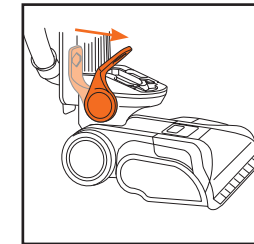
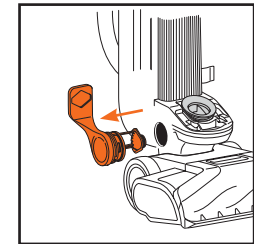

fig. 9
fig. 10
5. Remove the selector lever by pushing it all the way forward (**fig. 9**), then pulling it out sideways (**fig. 10**).